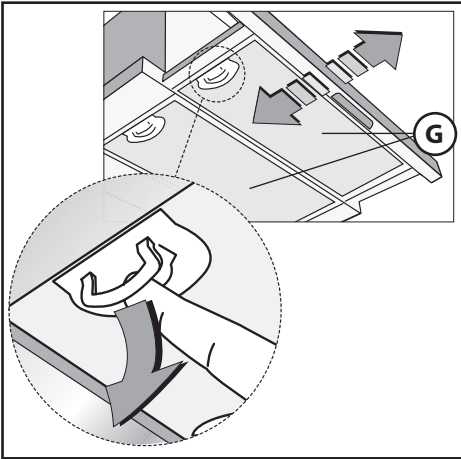
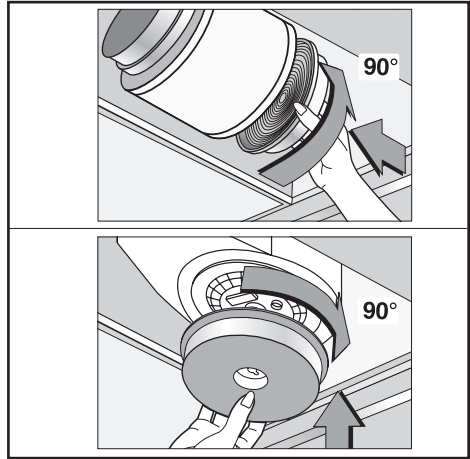

Fig.4
Fig.5
• If the hob is electric, gas, or induction, the minimum distance between the same and the lower part of the hood must be at least **65 cm**. If a connection tube composed of two parts is used, the upper part must be placed outside the lower part. Do not connect the cooker hood exhaust to the same conductor used to circulate hot air or for evacuating fumes from other appliances generated by other than an electrical source. Before proceeding with the assembly operations, remove the anti-grease filter(s) (Fig.4) so that the unit is easier to handle.
To transform the cooker hood from the extraction version to the recirculating one ask your supplier for an activated carbon filter. The filter must be fitted to the extracting group cooker hood in the centre of the fan grille by twisting it by 90 degrees until it is gripped securely (Fig.5). For this operation remove the anti-grease filter(s) **G** (Fig.4). The clean air is returned into the room through a connecting tube passing inside the cupboard and connected to the ring **H** (Fig.3B).